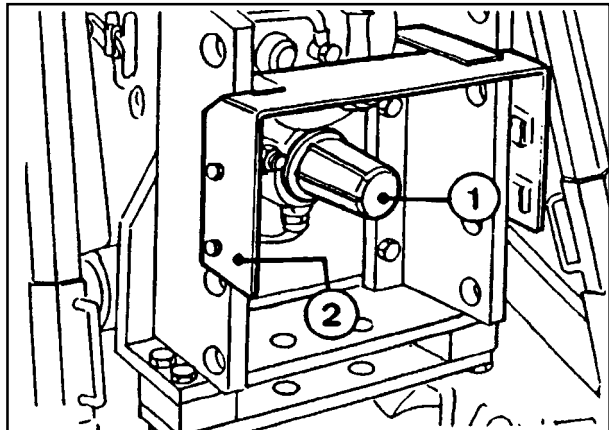

Fig.4-35
1. Unscrew and remove the cap that protects the PTO and keep it safe in the tool box so that it can be fitted back when required (Fig. 4-35).
3. Make sure that all protections are mounted (1-2 Fig. 4-35).